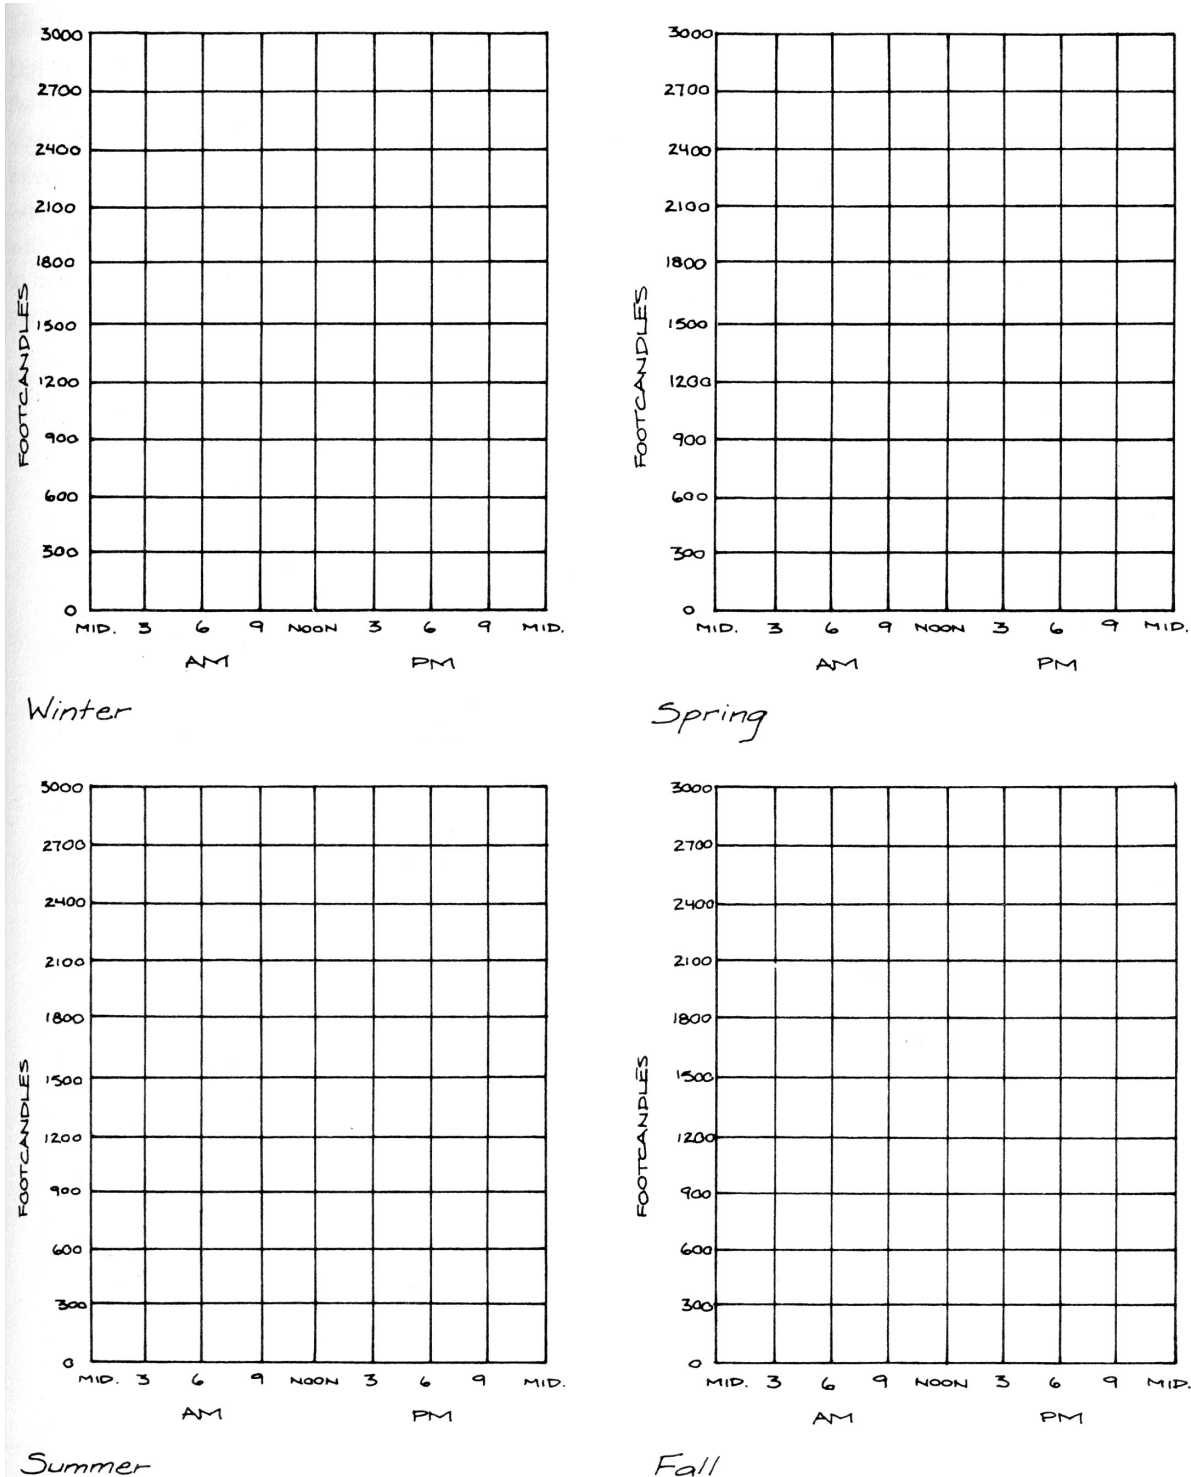

Figure B2.2.1 Available Illumination Graphs
2. Plot the illumination data [Figure B2.2.1]. On each graph indicate whether you are using clear or cloudy sky data.